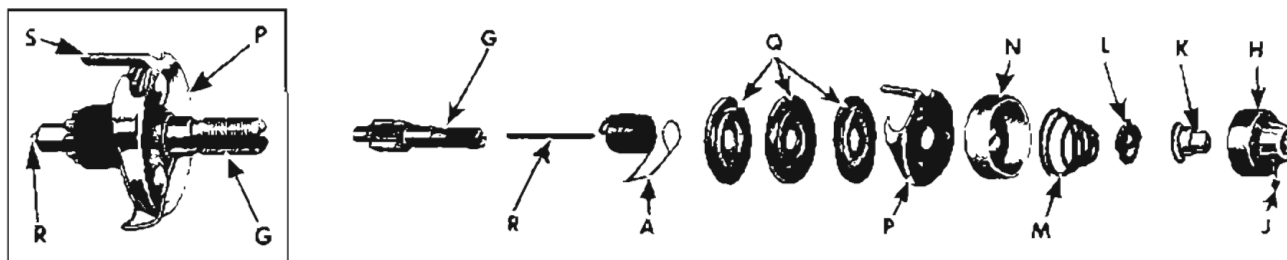

Fig. 35. Exploded View - Needle Thread Tension
REMOVAL: (See Fig. 35)
NOTE: It is not necessary to remove tension stud G from machine. It is shown removed in Fig. 35 to illustrate the complete assembly. See page 8 for instructions on removal of tension assembly as a unit.
1. Make certain that tension releasing pin R is in place as shown in inset, Fig. 35.
4. Align coils of spring with holes in discs and place this assembly on stud G, as shown in inset, Fig. 35. Extension S of thread guard P enters hole provided for it in machine head.
5. Replace indicator N, Fig. 35 with open side facing out and with plus (+) and minus (-) signs at top.